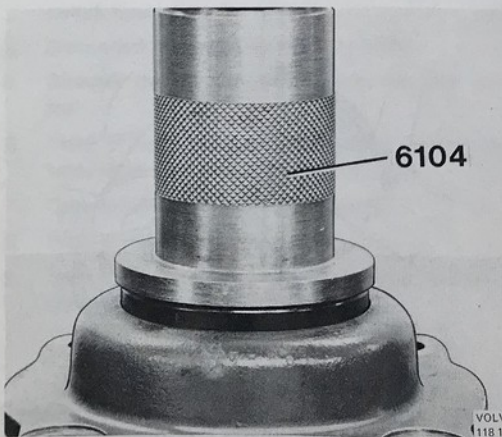

Fig. 92-27. Pressing in the seal
5. Grease the sealing lips on the seal. Drive the seal into the cover with 6104, see Fig. 92-27.